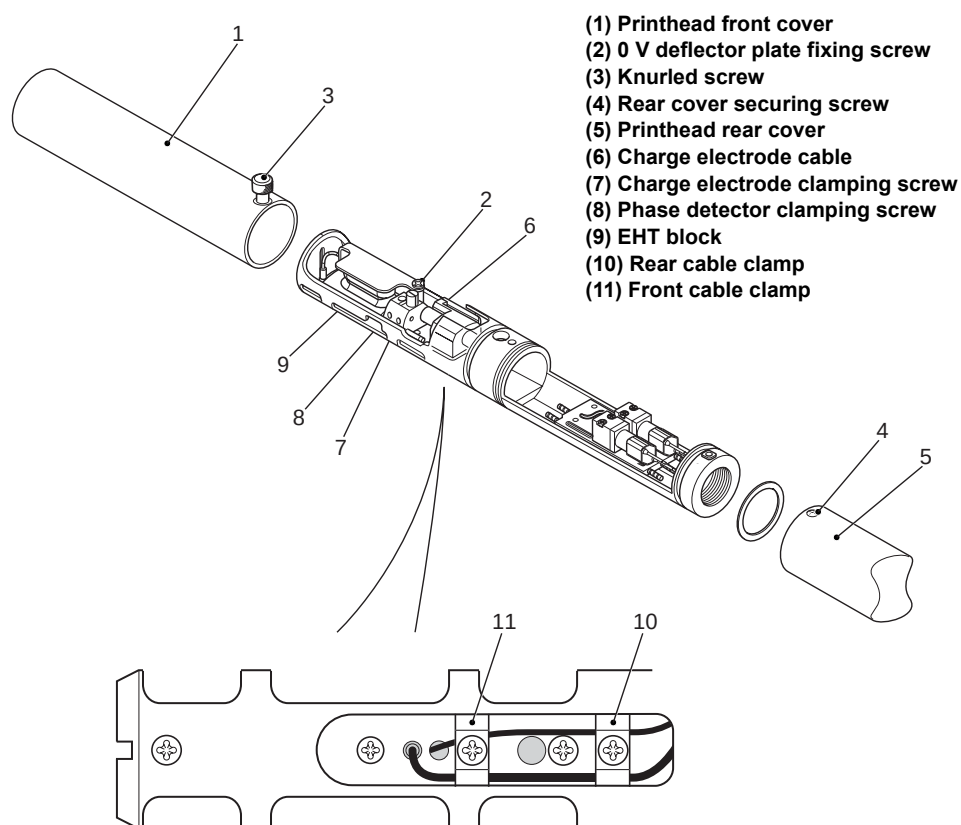

Figure 8-23. EHT Block Removal and Installation
- 1 Slacken the knurled screw (Item 3 in Figure 8-23) and slide the front cover (1) from the printhead.
- 2 Remove and retain the two rear cover securing screws (4).
- 7 Loosen the phase detector clamping screw (8). Slide the phase detector out of the EHT block, through the bottom of the printhead.
- 8 Loosen the charge electrode clamping screw (7) and pull the charge electrode cable (6) from the EHT block.
- 9 Remove and retain the 0 V detector plate fixing screw (2) and deflector plate. Pull the 0 V connecting cable away from the EHT block.